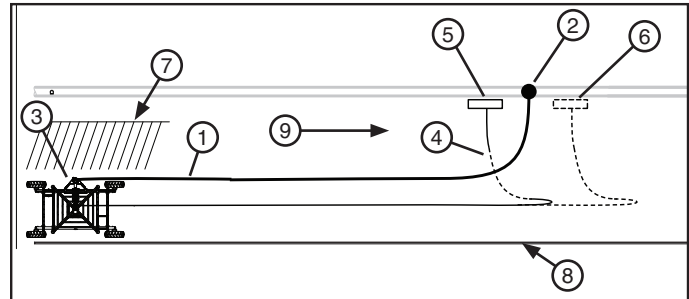

Figure 53-1 1. First Hose
1. Connect the first hose to the pipeline shut off valve and linear cart side inlet, then latch in place. See figure 53-1.
- (b) Position the electric cord far enough away from the hose, so that the hose will not drag over it. To prevent interference between the electric cord, cart tires and hose, bury the electric cord in the area where interference will occur or when applicable, position the electric cord over the top of hose. See figure 53-1.